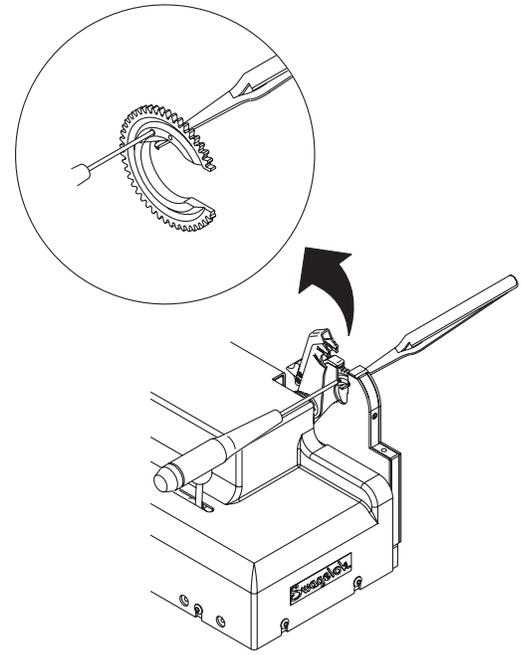

Figure 16 Loosening the Electrode Set Screw
See Figure 16.
- Install a new electrode using the tweezers. Insert the electrode through the ceramic insulator and into the rotor to its full insertion depth. Make sure the sharp tip of the electrode is pointing out. See Figure 16.